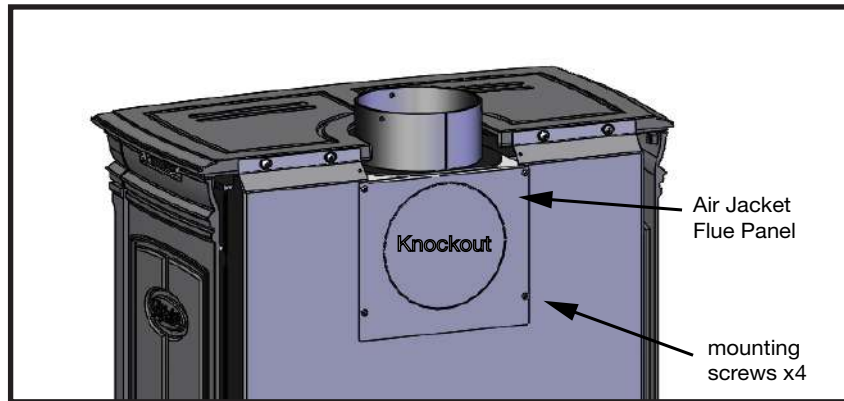

Figure 3: Flue Conversion Step 1.
1. Remove the Air Jacket Flue Panel (Figure 3). Remove the round cutout from the center, gently use a screwdriver to pry it out.